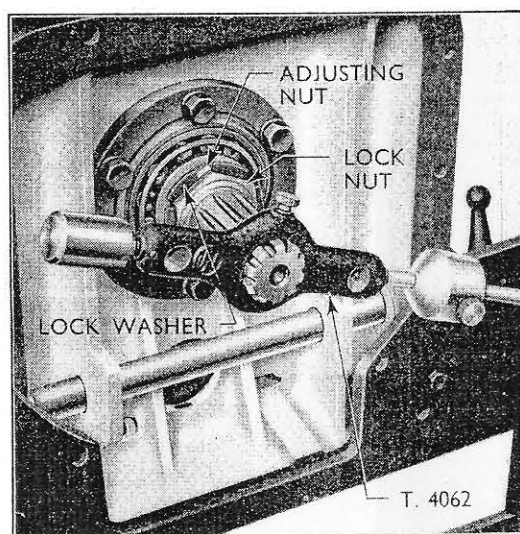

Fig. 18
14. Check the drive pinion bearing preload (see Fig. 18) and adjust to 12-16 lb./in. (1.66-2.07 kg.m.) using Tool Nos. T.4067, T.4064 and T.4065.